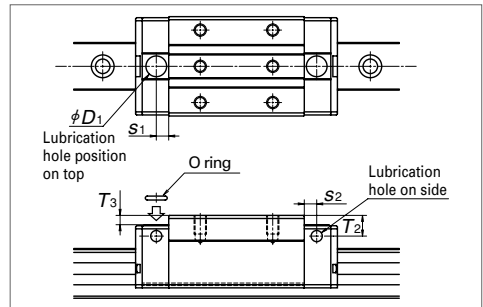

Fig.12 Top and side lubrication hole positions
- > A lubrication hole can also be provided on the top of the end cap. Fig.12, and Table 8 show the mounting position. A spacer is required for AN and BN shape roller slides. The spacers are available from NSK.